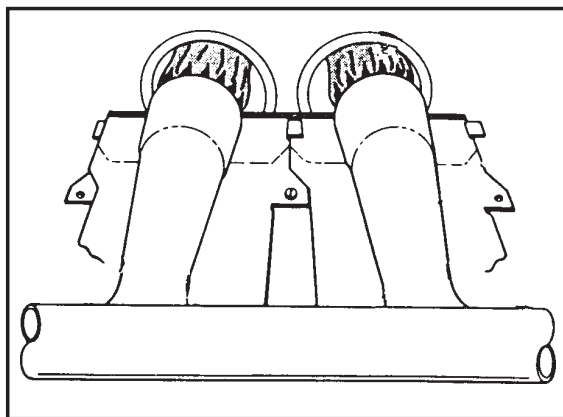

Figure 23. Burner Inspection
7. After the flame ignites, visually inspect the burner assembly to ensure that the flame is drawn directly into the center of the heat exchanger tube, as shown in Figure 23. The end of the flame will be out of sight around the bend of the heat exchanger tube. In a properly adjusted burner assembly, the flame color should be blue with some light yellow streaks near the outer portions of the flame.